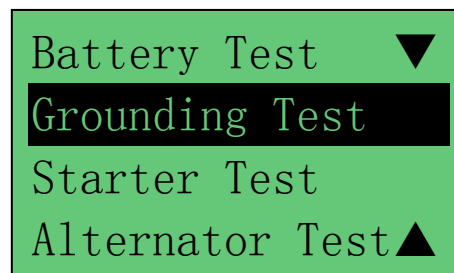

Figure 31
4. Pressing  key once will scroll down to the 'Grounding Test' (Fig.31)